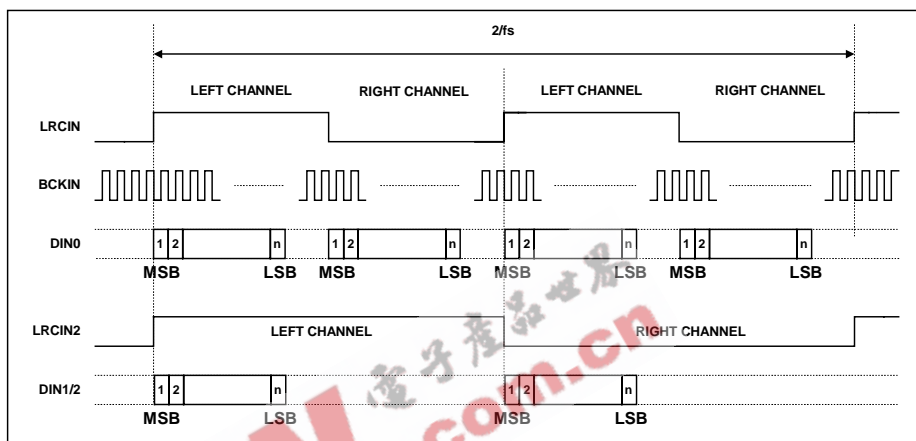

Figure 11 Split Rate Audio Mode Timing Diagram
This mode will only work with a front data rate of 192kHz and a rear rate of 96kHz but can be used with all the normal data formats **except** the two DSP modes and with the system at either 128fs or 192fs see Figure 11.
When running in split rate mode all the channels are clocked in using a common BCKIN; the front channels using LRCIN and all the other channels using LRCIN2 see Figure 11.
1. Figure 11 shows the timing for left justified. However, this is similar for right justified and I2S.